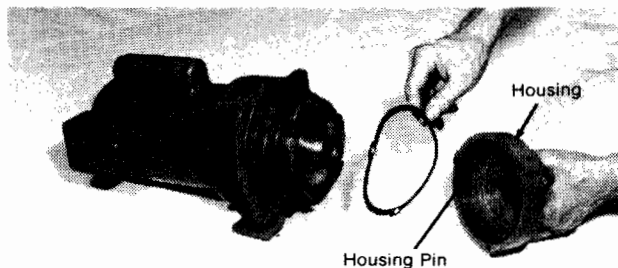

Figure 15
10. When replacing housing casting always use new gasket between housing and first diffuser vane plate. (See Fig. 15). Be sure holding pin in housing is correctly set to go between vane. This pin prevents diffuser from turning.